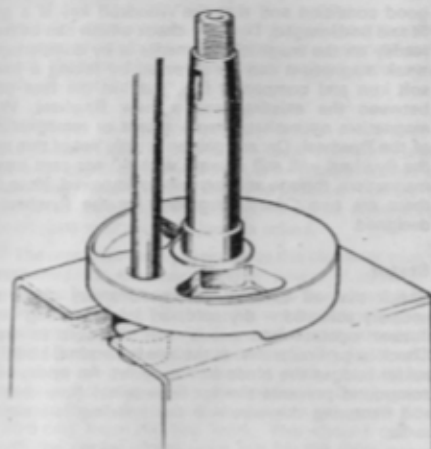

Fig. 17 Supporting second crankcheek to remove crankpin.
- 4 Place a suitable press tool on the crankpin, taking particular care that the tool does not overlap the crankpin for otherwise the crankcheek bore will be damaged. Now apply the press to push the crankpin (still captive in the lower crankcheek) out of the upper crankcheek (see Fig. 17).